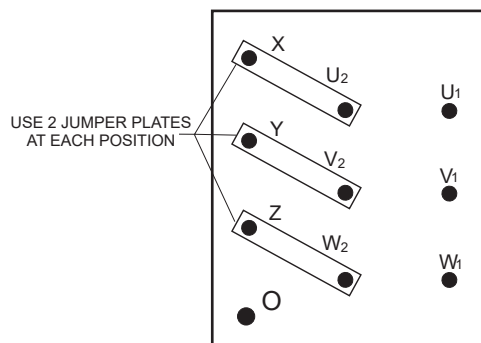

Figure 29. Voltage Change-Over Board (480-Volt Configuration)
1. Jumper the voltage change-over board for 480-volt operation as shown in Figure 29. This configuration uses 6 jumper plates in 3 different positions. Remember that there are 2 jumper plates at every position. Every jumper plate **must** be used.
1. Make sure the voltage change-over board is jumpered for 480-volt operation as shown in Figure 29.